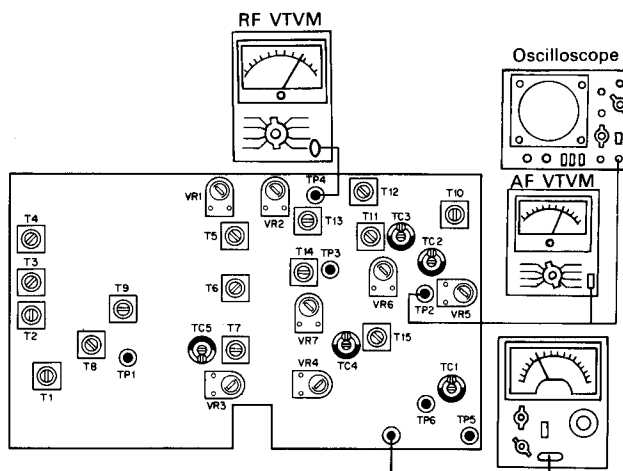

Fig. 37 Adjustment of speech processor
- 1) In **Fig. 37**, turn ON PRO switch and adjust T11 to T14 until the output voltage at TP2 becomes maximum.